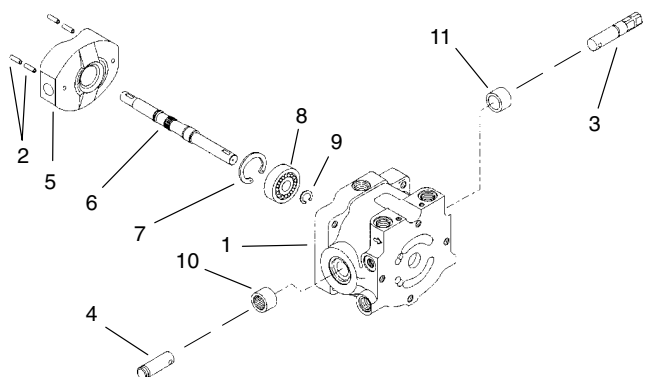

Figure 47
6. Position variable housing so the large cavity faces up (Fig. 47).
7. Drive spring pin out of the trunnion shaft and control shaft using a 3/16 inch diameter drift punch (Fig. 47).
8. Drive control and trunnion shafts outward and out of the swashplate bore. Shafts remove easily once clear of the swashplate bore (Fig. 47).
9. Remove swashplate from the variable housing. Remove retaining ring from the variable housing. Press shaft out with bearing and retaining ring. Remove retaining ring and bearing from the shaft (Fig. 47).
### 4. Inspect thrust plate. There should be no signs of scoring on the piston shoe contact surfaces (Fig. 47).
### 5. Inspect variable housing (Fig. 47).